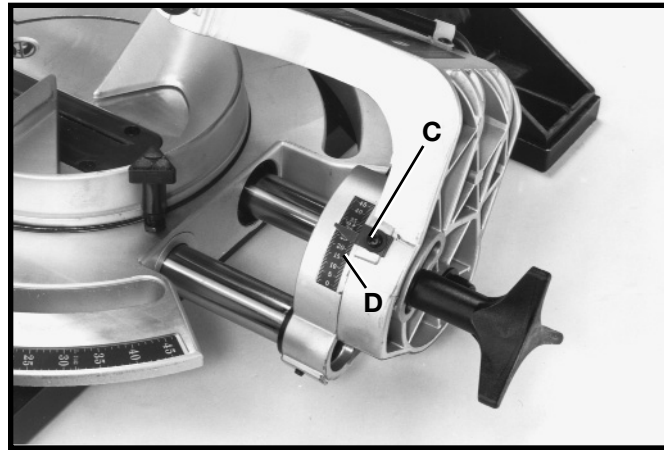

Fig. 42
Positive stops are provided to rapidly position the saw blade at 90 and 45 degrees to the table. Refer to the section of this manual titled **“ADJUSTING 90 AND 45 DEGREE BEVEL STOPS.”** The bevel angle of the cutting arm is determined by the position of the pointer (C) Fig. 42, on scale (D).